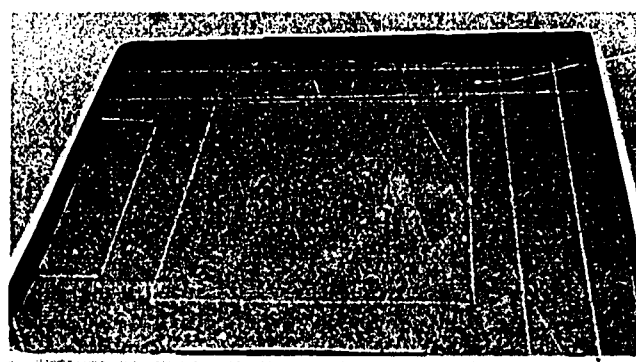

Fig. 30-9. Locating Streets
10. Mark the street location with nails and string. See Fig. 30-9.